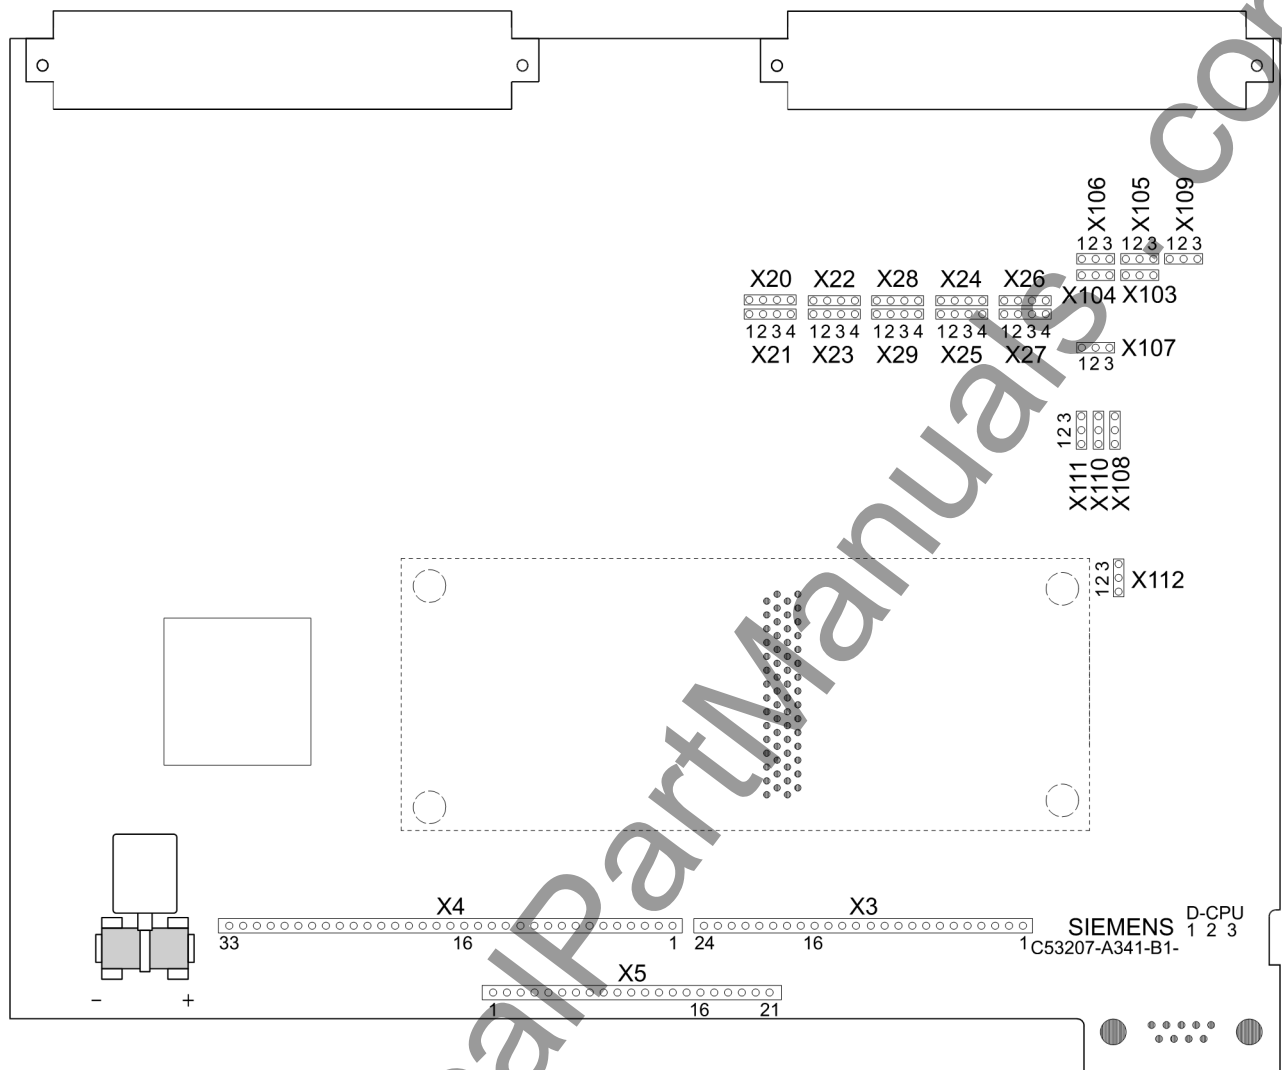

Figure 3-2 Location of the jumpers and the buffer battery on the D-CPU module (central unit)
- ☐ Remove the front plug connectors X3, X4, X5 on the D-CPU module (Figure 3-2, page 33).
- ☐ Change the rated control voltages for the binary inputs of the D-CPU module by relocating the jumpers (shown in Figure 3-2, page 33 and Table 3-2, page 33).
- ☐ Press the battery firmly into its snap-in holder (see Figure 3-2, page 33) on the D-CPU module. **Observe the correct battery polarity!**